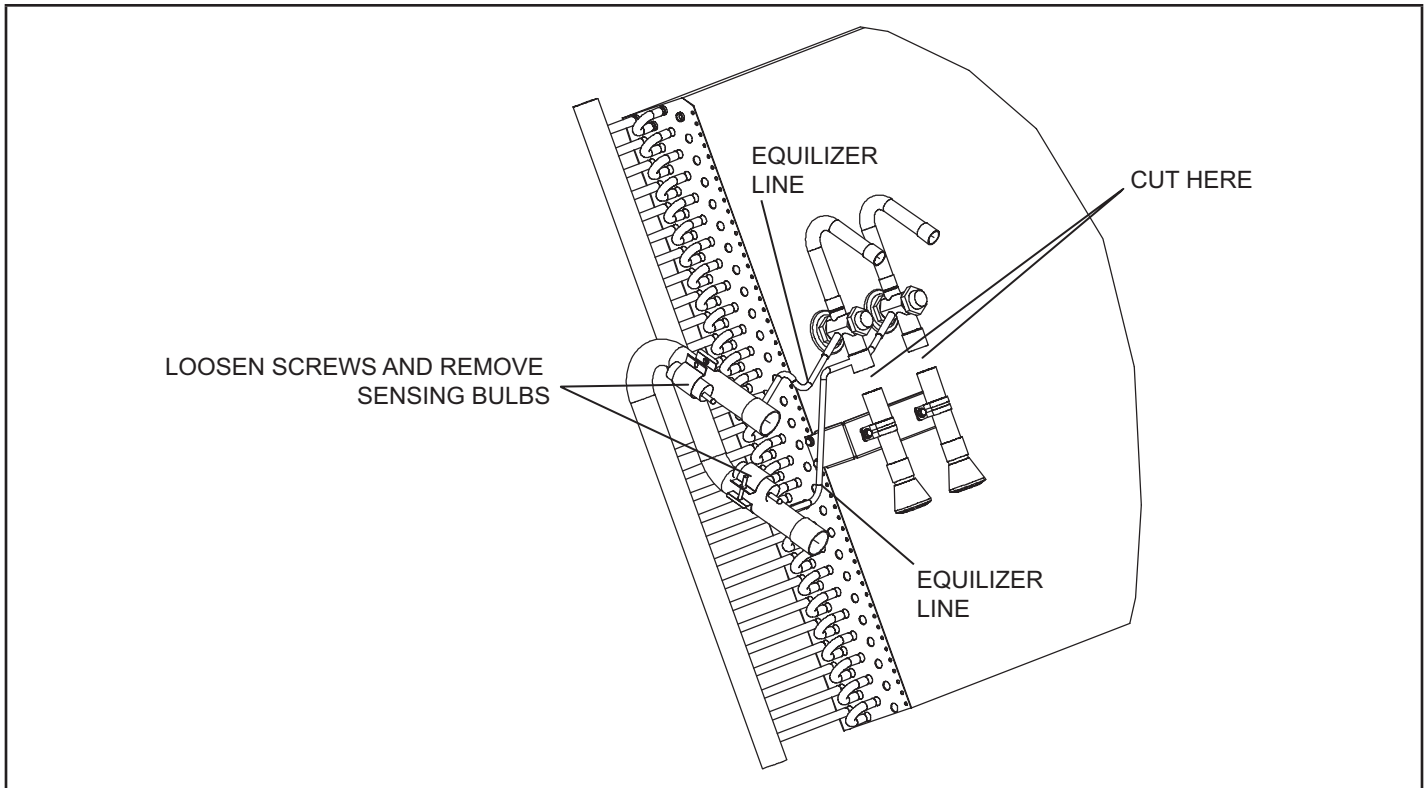

FIGURE 2. Remove TXVs
- 1 - Loosen screw on clamp and remove sensing bulb from vapor line as illustrated in figure 2.
- 2 - Cut liquid line and extension tube between TXV and distributor as illustrated in figure 2.